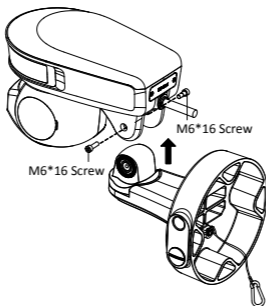

Figure 2-7 Install the Camera to the Bracket
- 1). Push the wall mounting bracket into the space of the bracket hanger, and fix the bracket with two M6*16 screws as shown in Figure 2-7.